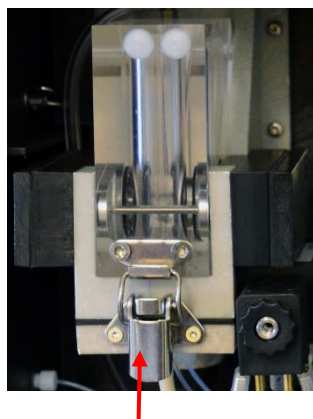

Figure 33
4. Release the spring lock (see figure 33), tilt the measuring chamber upwards and take it out.